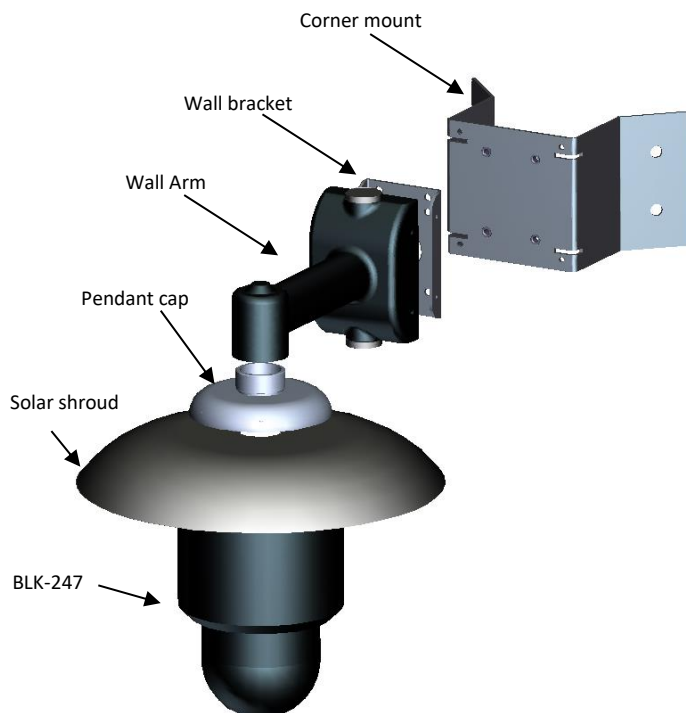

Figure 4 Corner Mount Installation (Exploded View)
8. For all other mount applications: remove the four (4) wall arm attachment screws (see Figure 4) to detach the wall bracket from the wall arm.